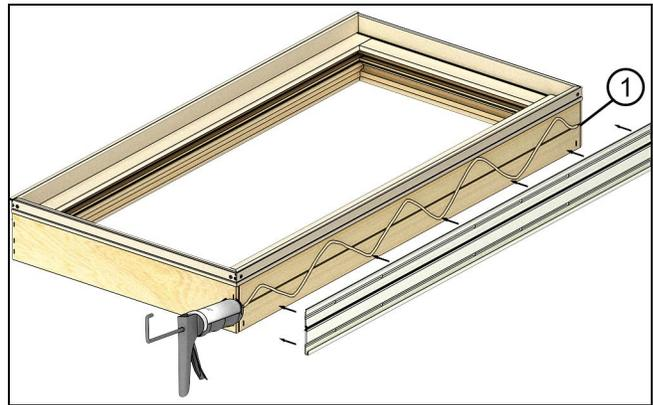

Figure 15
**2. Apply MRF Components to the frames.** Apply a 3/8" bead of Dow Corning® 791 (or equivalent) to the jambs in a wobble pattern. See Figure 15.